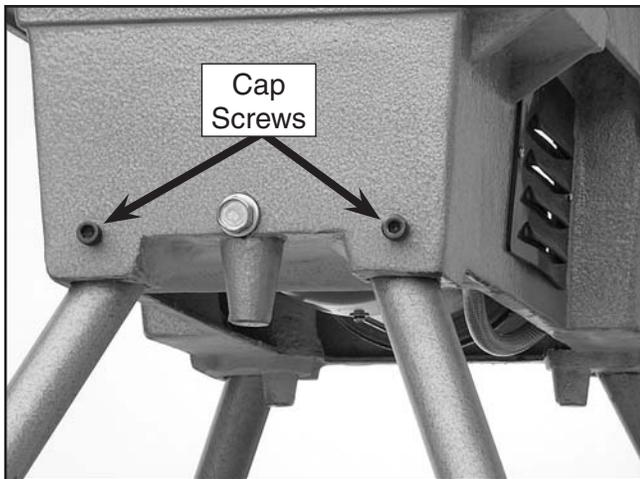

Figure 3. Legs installed into the bottom of the machine.
1. Install each leg as shown in **Figure 3**, using the cap screws already mounted to the main body.